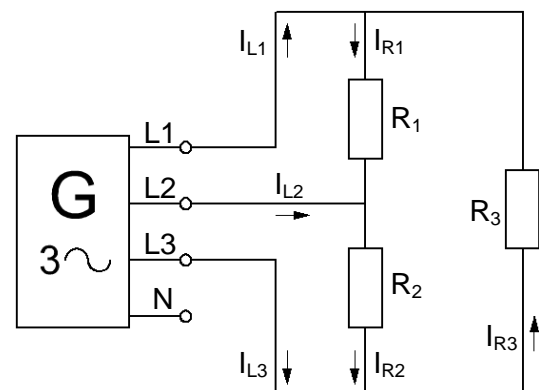

Fig. 12.4.2.1: Measurements on the delta circuit
- Load the three-phase generator on the Electronic Circuits Board with 3 resistors connected in a delta circuit, as in Fig. 12.4.2.1. First, use 3 resistors of the same value, each 1 k $\Omega$  (assembly details are given in section 12.4.3).